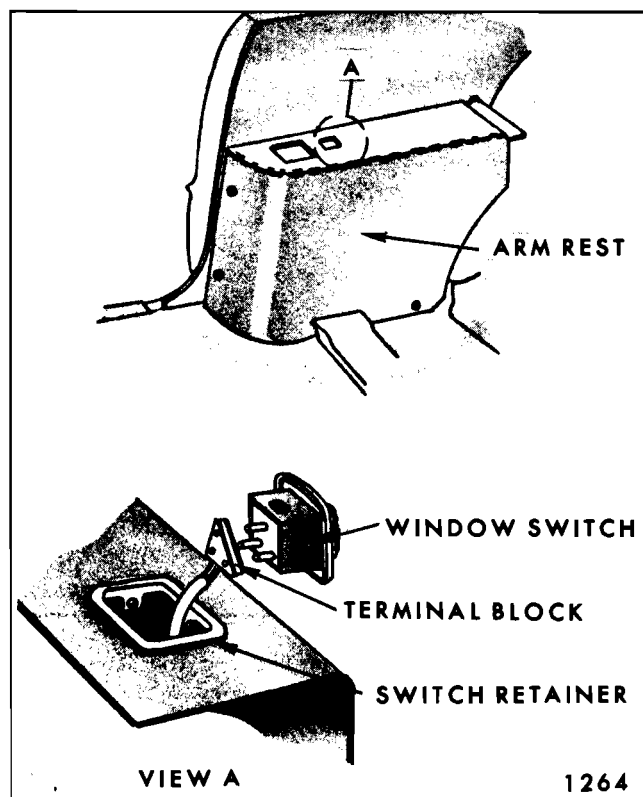

Fig. 14-25—Rear Quarter Arm Rest Window Switch Assembly
- g. On styles with other electrical devices in arm rest assembly, carefully detach arm rest from rear quarter inner panel sufficiently to disconnect wire harness connectors. Figures 14-25 and 14-26 are typical of electrical installation in rear quarter arm rests. Lift arm rest in an upward, inboard movement and remove